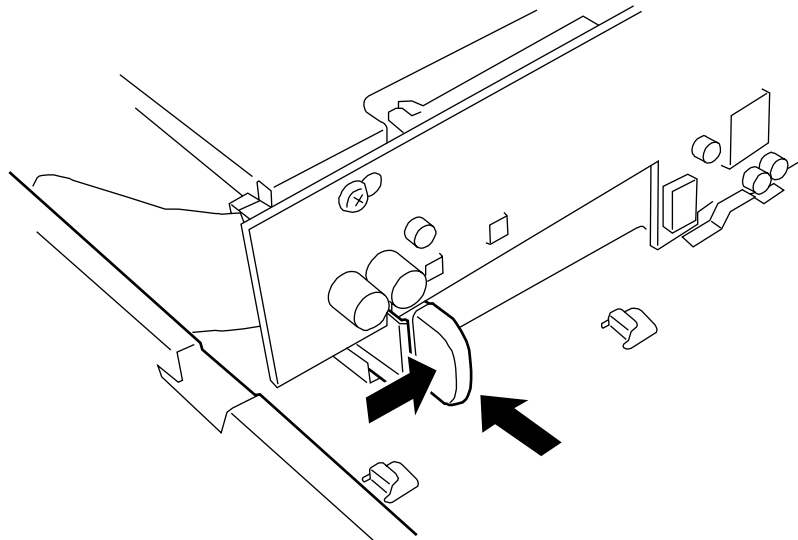

Figure 4-40. Releasing the Device Carrier
- 11.** While pushing the latching tab that secures the device bay, push the device carrier out the front of the server. See Figure 4-40.